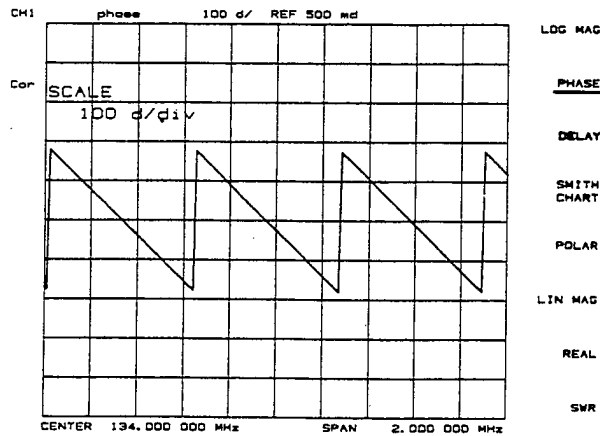

Figure 7-10. Phase Format
**[PHASE]** (PHAS) displays a Cartesian format of the phase portion of the data, measured in degrees. This format displays the phase shift versus frequency. Figure 7-10 illustrates the phase response of the same filter in a phase-only format. A measurement of phase response is described in the *User's Guide*.